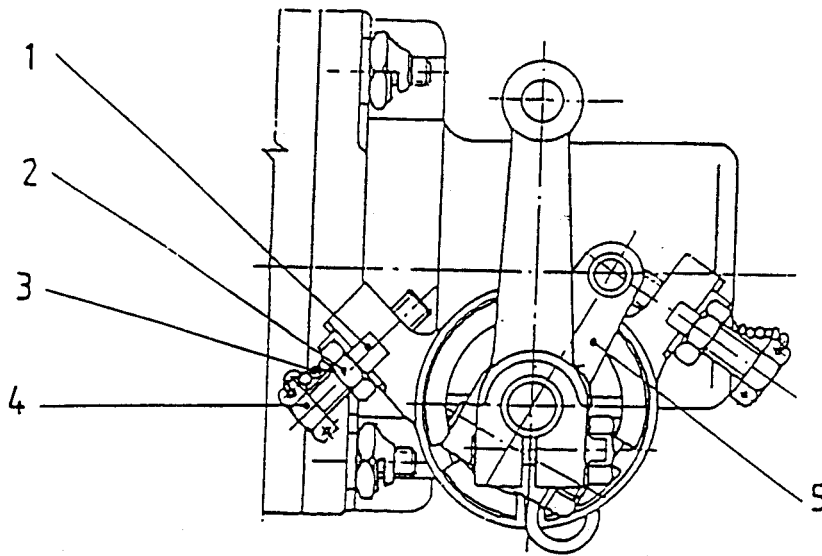

Fig. 10 Maximum rpm adjustment
- 9.1** Remove lock washer from stop screw (fig. 10/10.1) and open tab washer, loosen check nut of the screw.